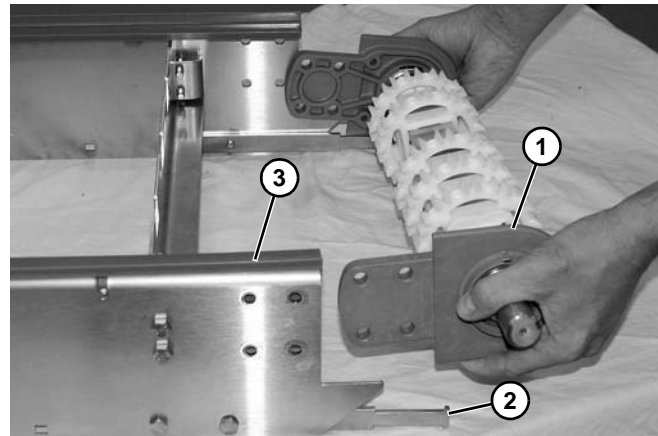

Figure 47
5. Slide the drive spindle assembly (**Figure 47, item 1**) and drive tail blocks (**Figure 47, item 2**) off of frame (**Figure 47, item 3**).